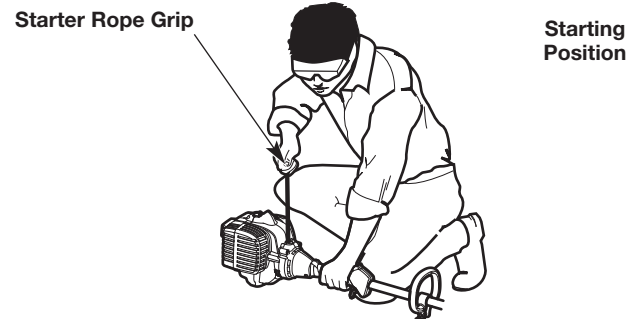

Fig. 12
WARNING: Avoid accidentally starting the unit. To avoid serious injury, the operator and the unit must be in a stable position when pulling the starter rope (Fig. 12).
5. **DO NOT** squeeze the throttle control. Crouch in the starting position (Fig. 12).
6. **DO NOT** squeeze the throttle control. Pull the starter rope with a controlled and steady motion until the unit starts (Fig. 12).